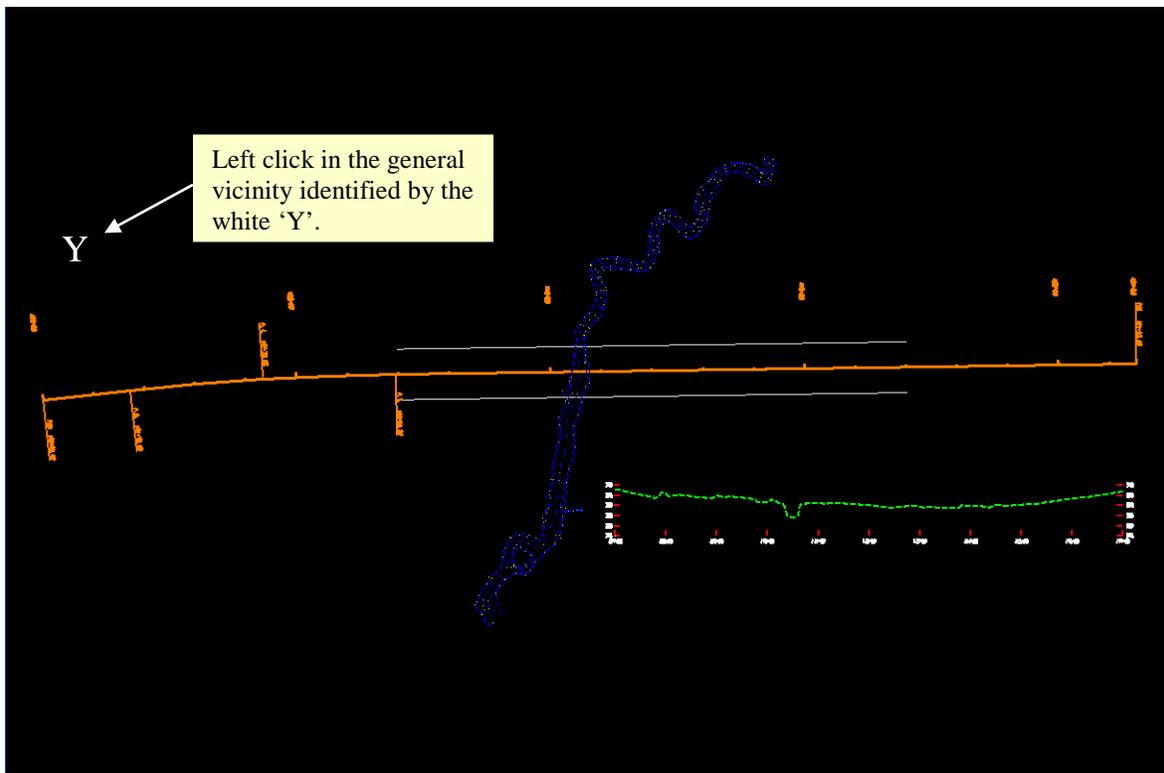

Figure L3-11 MicroStation View Window
- Notice in the bottom left corner of the MicroStation window you are prompted to **> Identify Location**. Left click in the general vicinity identified by the 'Y' in *Figure L3-11*.